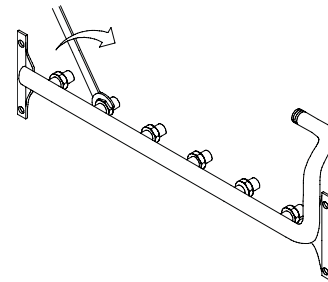

Fig. 2 - Remove Orifices
1. Remove the Natural gas burner orifices from the manifold assembly and replace them with the appropriate Propane (silver) orifices furnished in the conversion kit (Fig. 2), unless converting a high altitude unit, then see Table 1 for appropriate orifices.